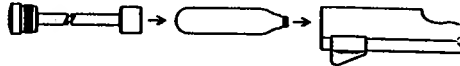

FIG. 3
- Insert the new CO₂ cylinder into the rifle with the small neck of the cylinder into the action tube first. (Fig. 3).